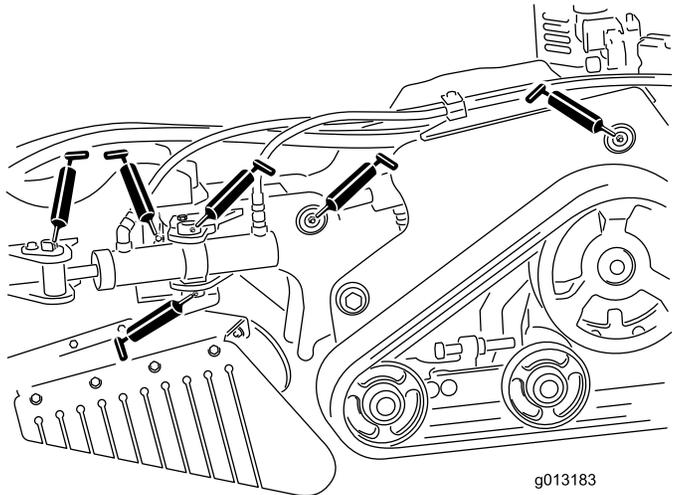
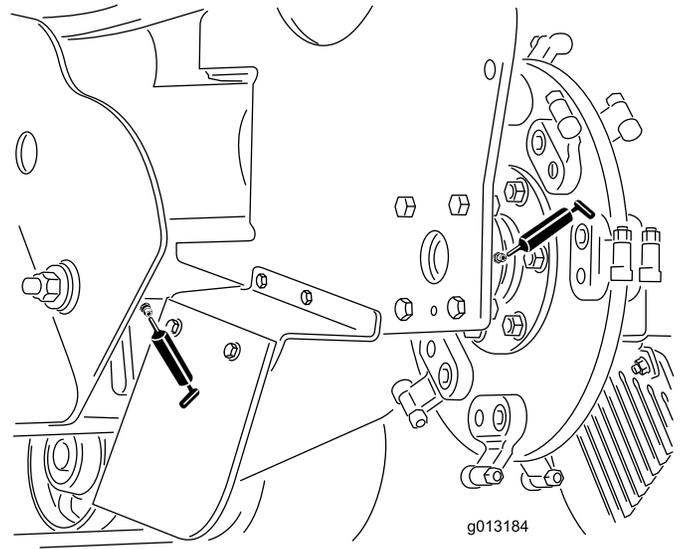

Figure 25
Figure 26
4. Connect a grease gun to each fitting (Figure 25 and Figure 26).